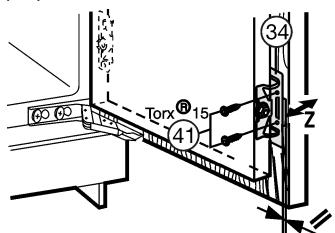

Fig. 24
- Fasten the appliance door to the unit door with screws Fig. 24 (41) through the mounting brackets Fig. 24 (34).